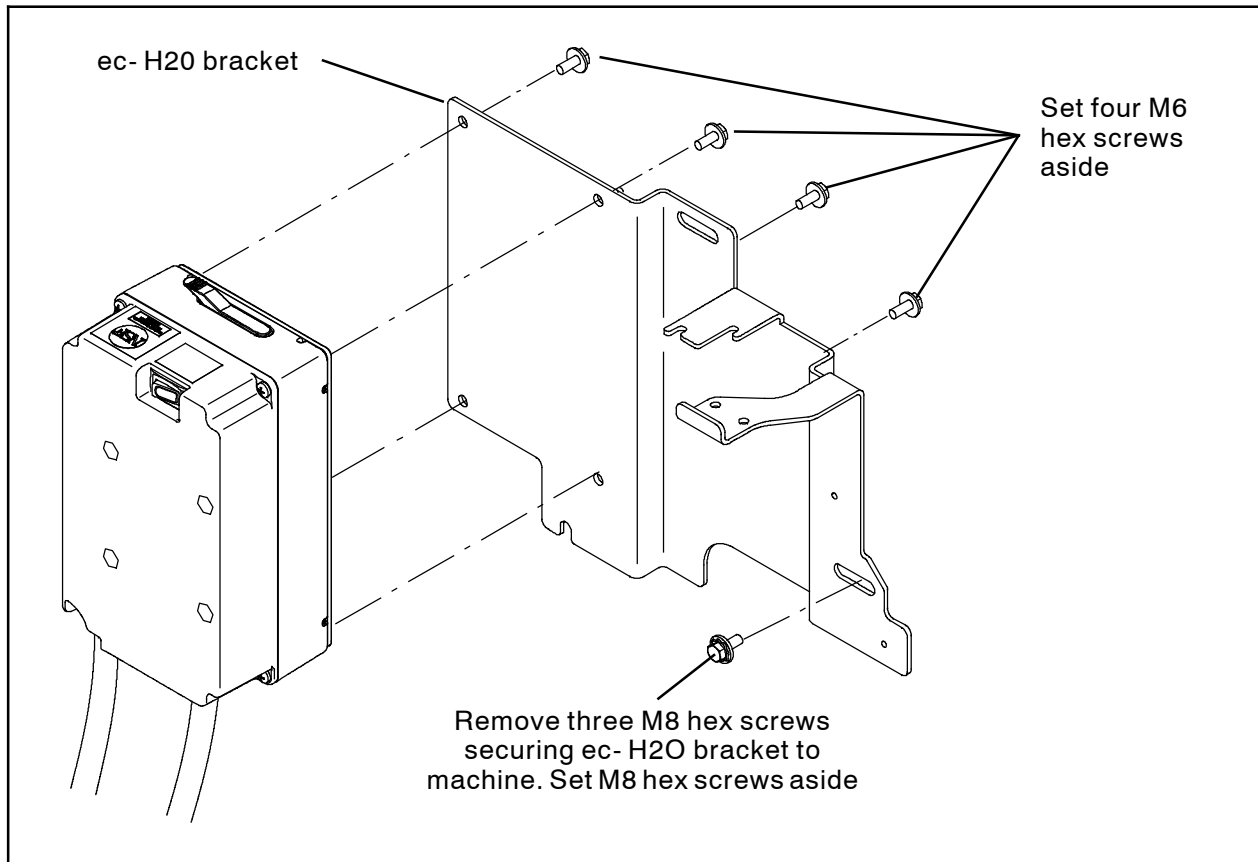

FIG. 1
1. Remove the ec- H2O bracket from the machine. Set the three M8 hex screws aside. (Fig. 1)
2. Remove the ec- H2O module from the ec- H2O bracket. Set the four M6 hex screws aside. (Fig. 1 / Fig. 2)
3. Secure static ground strap (8) around wrist. Secure the other end of the static ground strap to the machine frame.
9. Reinstall the ec- H20 module onto the ec- H20 bracket. (Fig. 1 / Fig. 2)
10. Reinstall the ec- H20 bracket onto the machine. (Fig. 1)